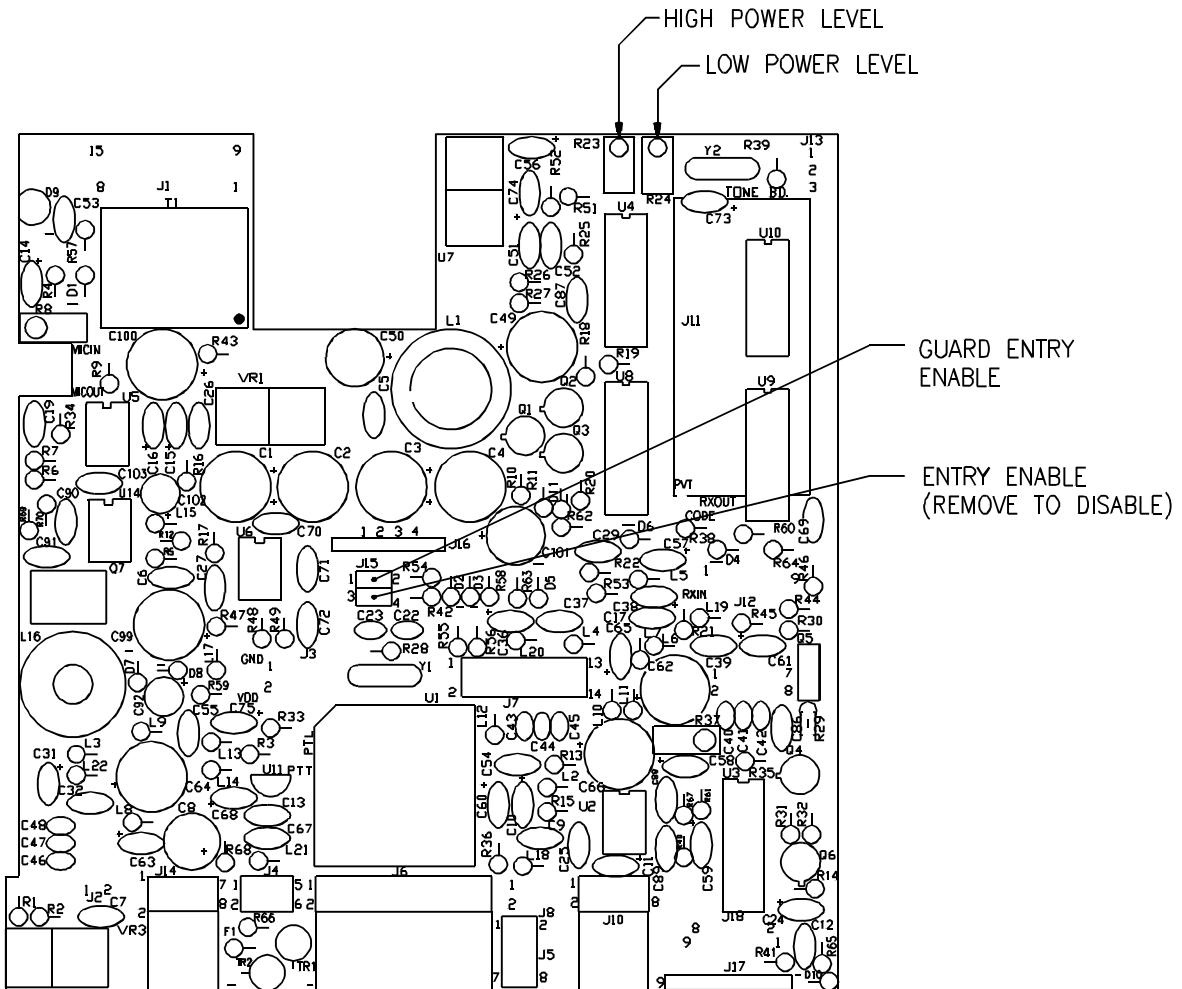

FIGURE 3-3 Internal Enable/Disable Jumper and Transmit High/Low Power Adjust Locations
1. Remove and retain the seven (7) No. 4-40 screws securing the bottom cover of the transceiver to its chassis.
2. Remove and retain the four (4) No. 4-40 screws securing the guard receiver PCB module in the chassis tray. Remove the guard receiver module from the chassis tray.
3. Remove and retain the two (2) screws securing the fuse board. Remove and retain the five (5) screws securing the chassis tray to the main chassis. Remove the chassis tray.
4. You should now have access to the Microprocessor Control Unit (MCU) PCB Module (See Figure 3-3). Remove the enable/disable jumper from pins 3 and 4 of J15.
3. In low power mode, set the low power adjustment potentiometer R24 to produce 1.0 watt of RF output power (See Figure 3-3).